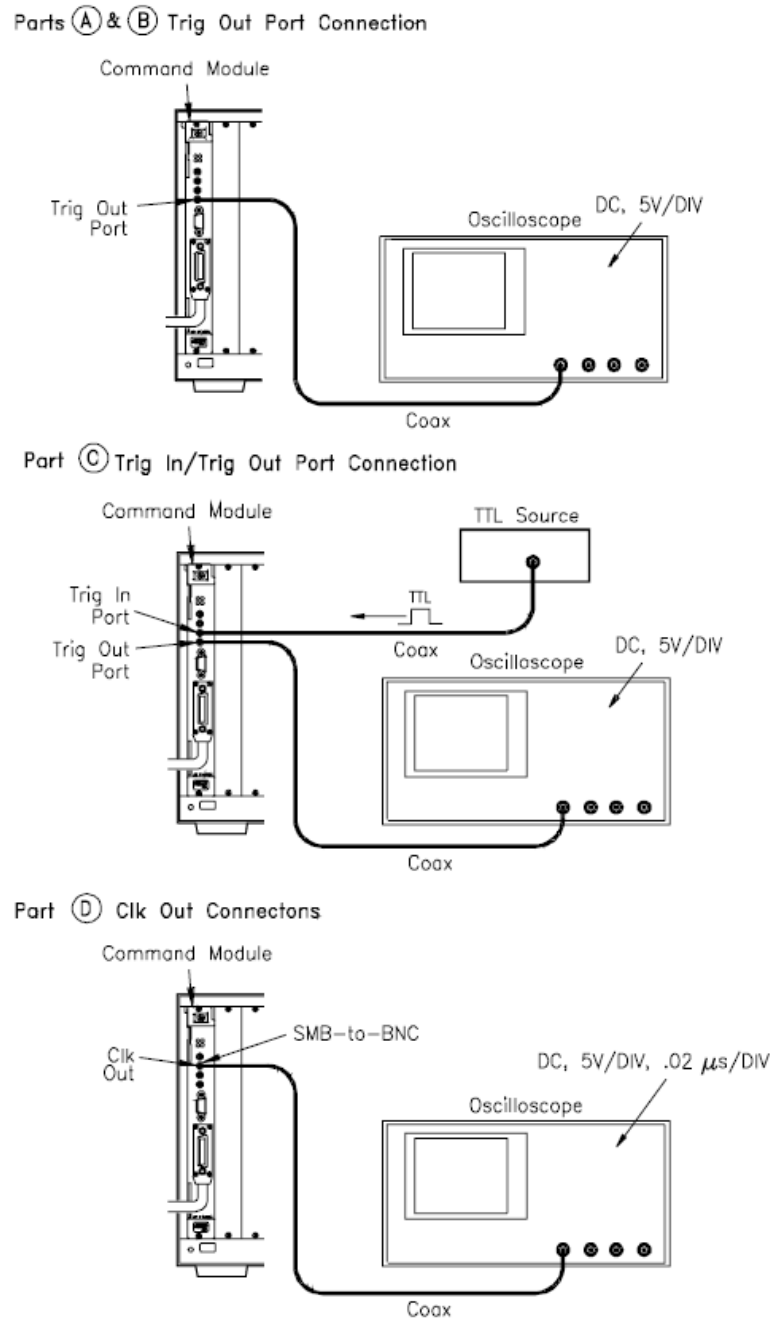

Figure 2-7 Test F-1: Front Panel Outputs Connections
- Connect oscilloscope to command module (see Figure 2-7)
- Set up oscilloscope (see Figure 2-7)